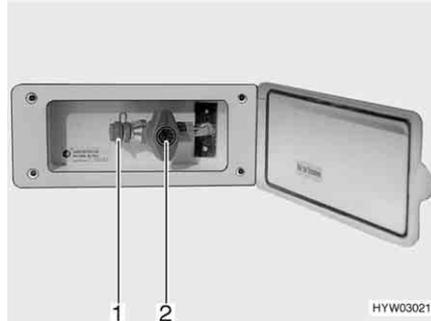

Fig. 111 External gas connection, gas isolator tap closed
The external gas connection (Fig. 111) is located at the rear or to the left or right of the vehicle depending on the model.
- Connect the external gas device to the connection point (Fig. 111,1).
- Open the gas isolator tap (Fig. 111,2).